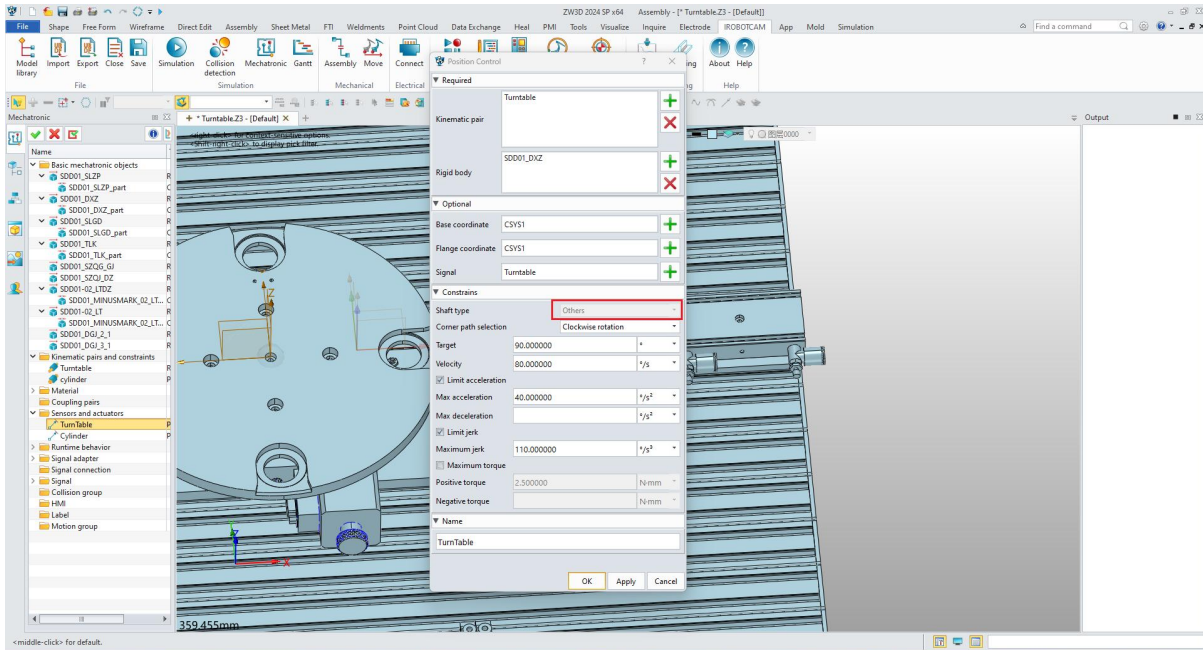

Figure 13-26: Turntable message
- Define position control for both "Turntable" and "Cylinder".(Figure 13-26/13-27)
- Associate the control with the corresponding kinematic pairs and rigid bodies.(Figure 13-26/13-27)
- Specify coordinate systems, signals, axis types, target positions, speeds, and acceleration limits for each control.(Figure 13-26/13-27)